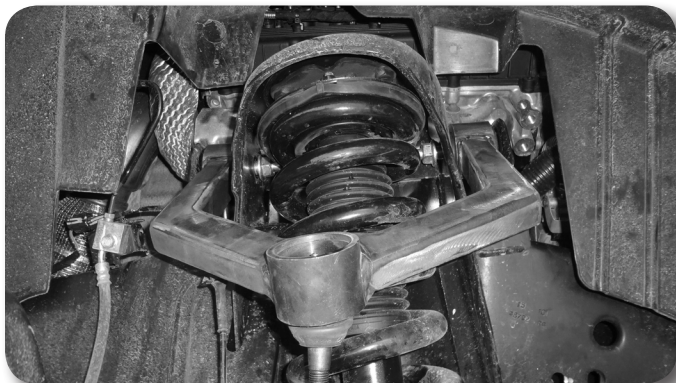

Figure 16
24. Install the strut assembly back in the vehicle and fasten to the original frame mount with the provided 10mm nuts and washers. **Figure 16** Torque nuts to 45 ft-lbs.